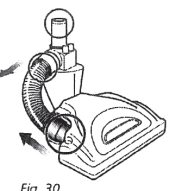

Fig. 30
- Detach the hose on the motorized floor brush at the top by squeezing the tabs together and pulling out, and at the bottom by pulling out the connector. Inspect inside the 3 holes. (Fig. 30)